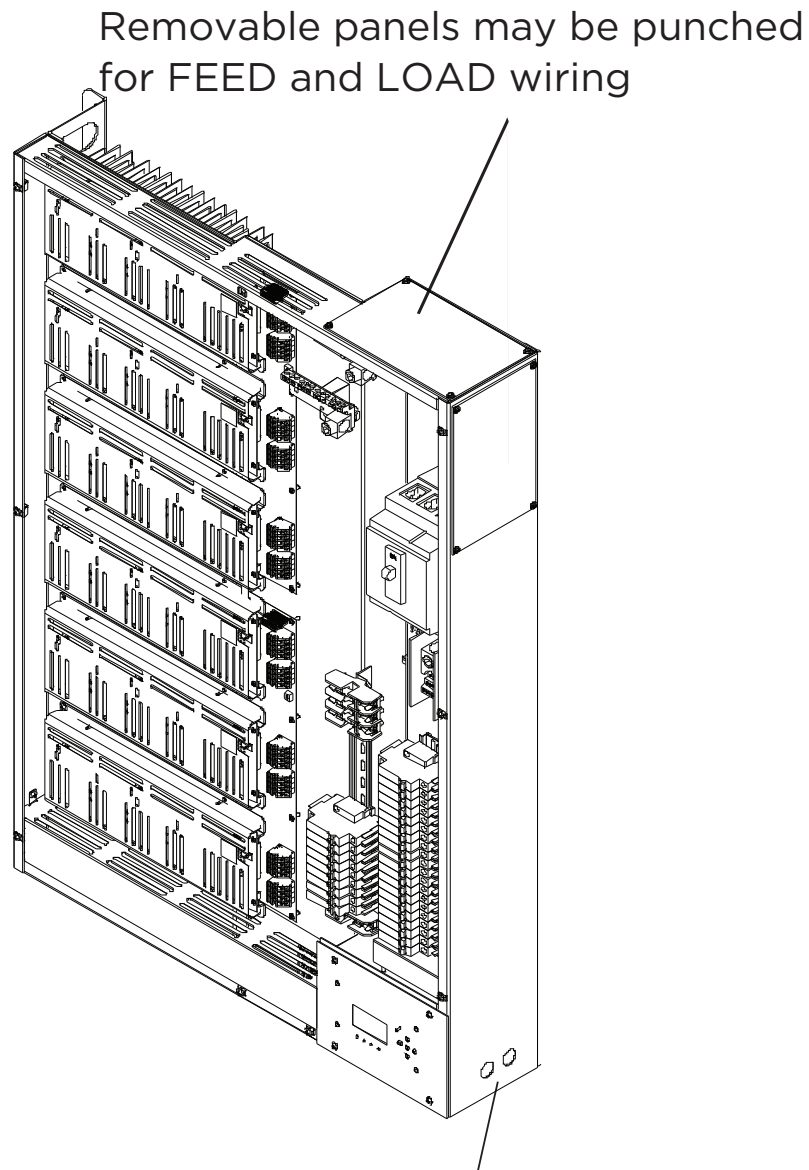

FIGURE 3. WIRING INPUTS
- Step 3. As required, remove wiring covers or knockout holes to accommodate wiring. **FIGURE 3. Wiring in-puts on page 9**